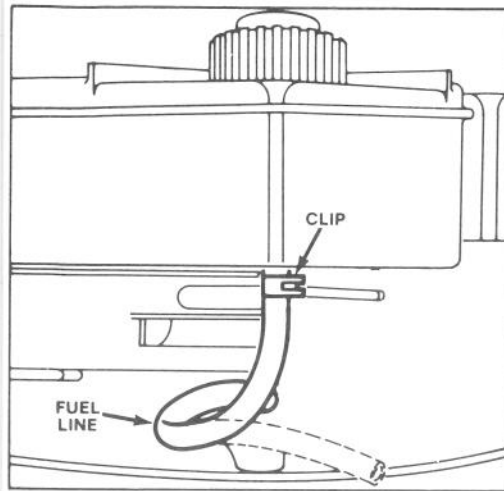

Figure 14
2. Squeeze ends of fuel line clip (Fig. 14) and slide clip down fuel line. Carefully pull fuel line off fitting and allow gasoline to flow into drain pan (Fig. 14).